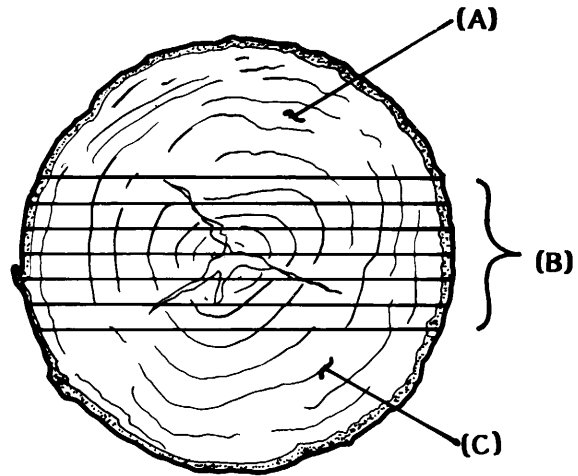
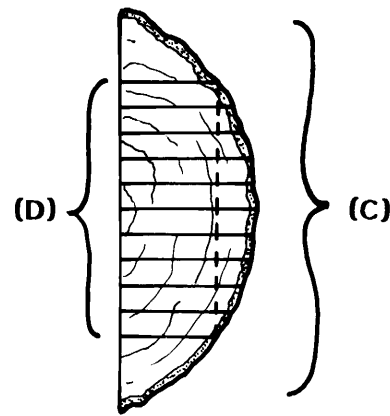
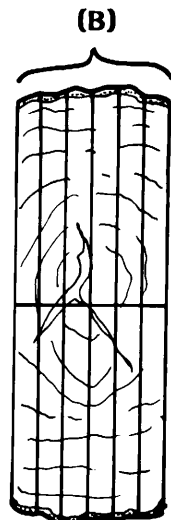
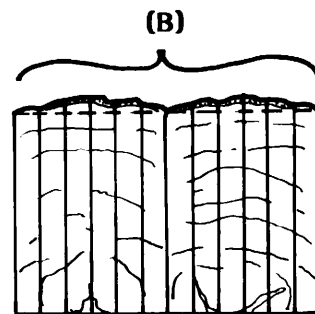

FIGURE 1
FIGURE 2
FIGURE 3
FIGURE 4
The Society of American Foresters defines quartersawn as "timber converted so that the growth layers meet the face of any part at an angle $\neq 45^\circ$ (not less than 45°). When the angle is $\neq 80^\circ$ (not less than 80°) the timber is termed fully quartersawn". This technical definition is one reason that the term is confusing to many people new to sawing. In simpler terms this means that a fully quartersawn board has growth rings that are approximately perpendicular to the face of the board **See Figure 1**. The board is still considered quartersawn as long as the growth rings aren't less than 45° to the face of the board. **See Figure 2**.
We have found commercial quartersawing of logs to be simple and fast on the Wood-Mizer®. Judgment as to where the first cut should be made depends on the shape of the log (oval, square, or round), and as such, is arbitrary. Seeing that this method results in the best quality lumber, we felt you would be interested in the approach we use. It is important to keep the heart of the log parallel to the bed of the mill. It may be necessary to raise one end of the log to accomplish this and wedge a small piece of wood under it. Referring to the sketches below, **Figure 1** shows an end view of a log we will say is 17 inches in diameter. The first cut is made 11½ inches above the bed. The top cant (A) is laid to the side and six cuts of one inch (B) are made and those boards laid aside. The remaining cant (C) is rotated 90° (See **Figure 2**) and boards are cut starting 13 inches from the bed down to 3 inches (boards D). These boards are acceptable as commercial grade quartersawn lumber. The two boards above and below are plain sawn. The boards (D) are then placed in a vertical position and edged. Cant (A) is processed in like manner. Boards (B) are then mounted vertically, sliced through the center (**Figure 3**,) and edged. (See **Figure 4**.) Using this approach, 60 to 70 percent of a good log can be converted into the most valuable lumber rapidly and effectively.